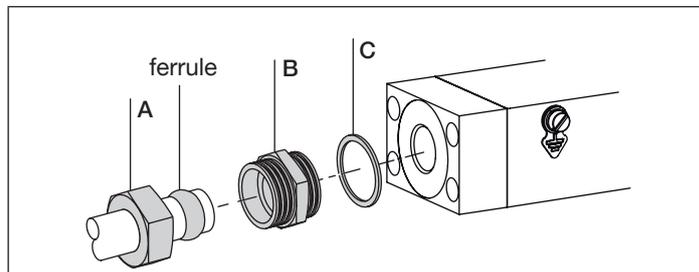

Fig. 12: Nut and ferrule on the pipe
- Slide the nut [A] and then the ferrule onto the pipe. See Fig. 12.